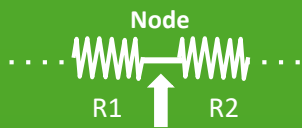

Figure B2.1. A series connection node (see arrow) is a connection between two resistors, in this case our resistors are R1 and R2.
**Resistors** are in a series connection or series circuit when there is only one pathway for the **current** to flow. More specifically, if resistors are lined up end-to-end, they are connected in series as shown in *Figure B2.1* and *B2.2*. If all resistors in a circuit are in series, the circuit is called a **series circuit** as shown in *Figure B2.2*.
- ❑ When the two components share a single common **node**, the same current flows through them (*Figure B2.1*). In *Figure B2.2*, the current flows straight from the positive terminal of the battery to resistor  $R2$ , then to resistor  $R3$ , and back to the terminal. It only has one pathway to flow.